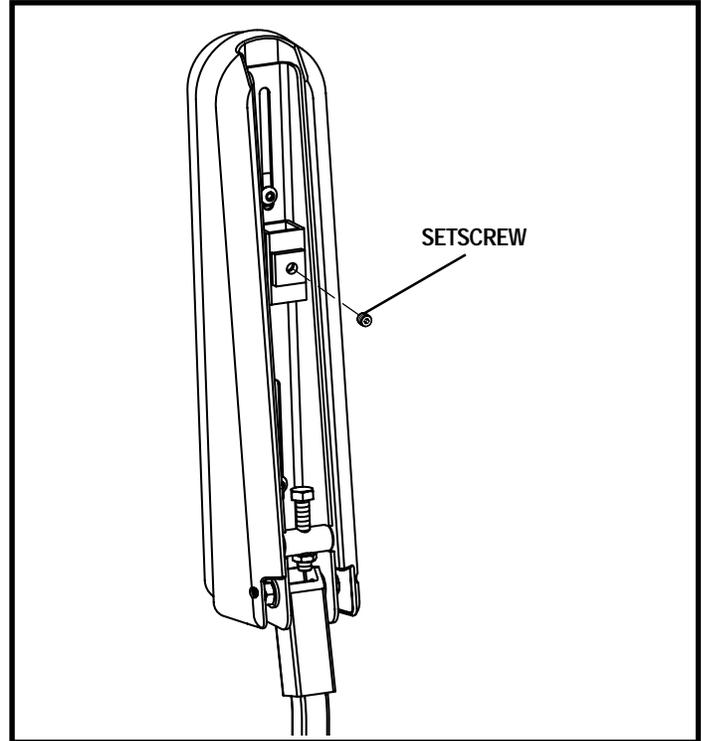

Figure 18. Underside of Armrest (Contour Seat)
2. Loosen the setscrew on the controller bracket. See figure 18.
**NOTE:** For contour seats, loosen the setscrew on the underside of both armrests, transfer the controller, and tighten the setscrews. See figure 18.